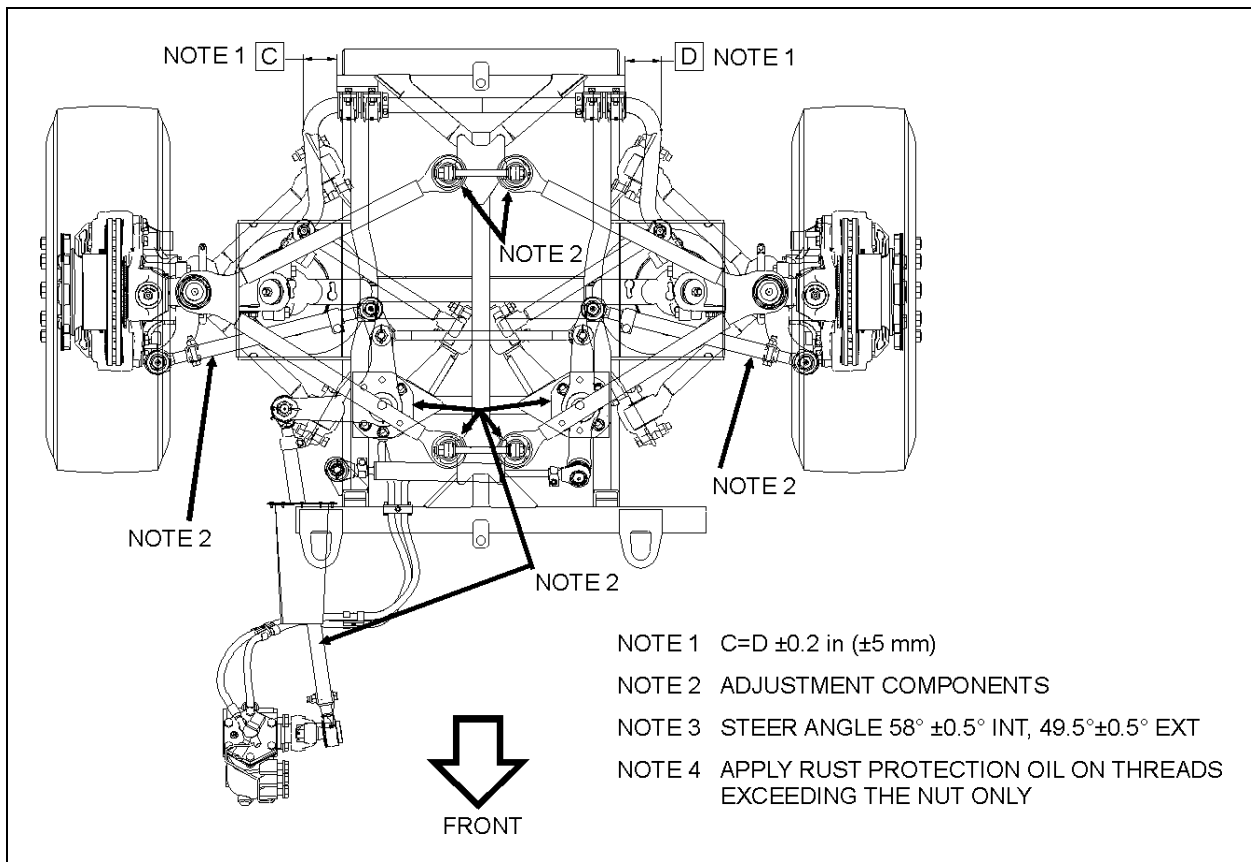

FIGURE 24: NOTE 2 INDICATES WHERE ADJUSTMENT MAY BE PERFORMED IF NEEDED WHEN PROCEEDING TO IFS ALIGNMENT
4. Check that the angular relationship of the pitman arm to the steering gear is as shown in figure 24.